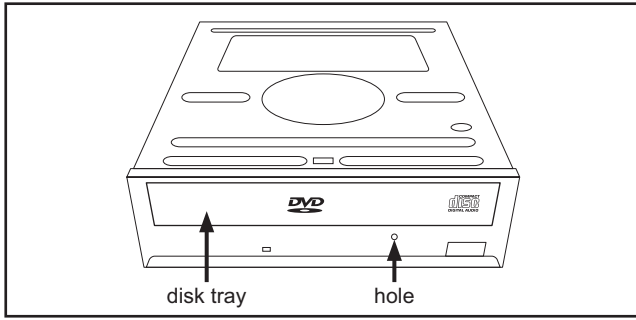

Fig.5-2a
- (1) Unplug the AC power cord from the AC outlet.
- (2) Remove the top cover and front panel assembly. (Refer to the disassembly procedure and perform the disassembly of the major parts before removing)
- (3) Pass a thin wire through a hole in the DVD unit.
- (4) The disc tray comes out slightly. Take out the disc tray manually. (See Fig.5-2a)